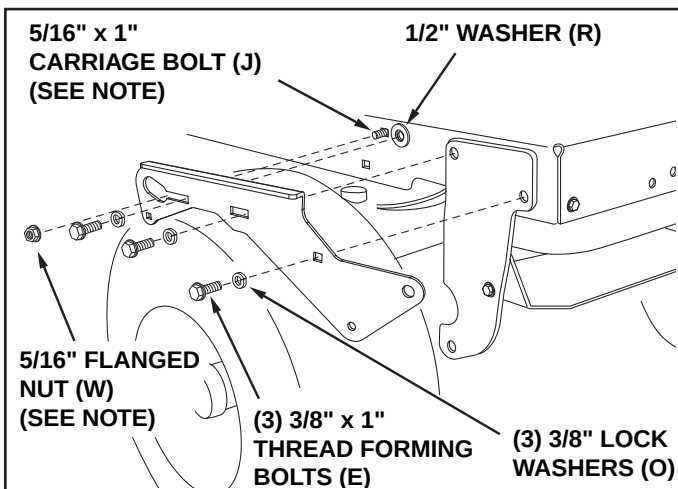

FIGURE 21
STEP 22: (SEE FIGURE 21)
- Fasten the R.H. Side Plate (bend facing out) to the front three holes shown in the tractor frame using three 3/8" x 1" thread forming bolts (E), three 3/8" lock washers (O) and one 1/2" washer (R) placed on the third bolt as a shim between the side plate and the frame. Tighten all bolts. Repeat for the L.H. side.